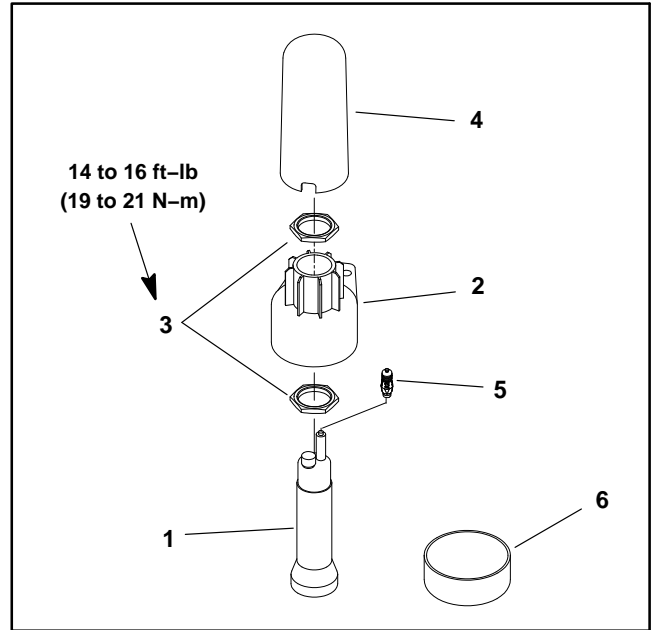

Figure 15
Two (2) identical sonic sensors are used in the Ultra Sonic Boom System. The sensors are mounted to the spray booms (Figs. 15, 16 and 17). During sprayer operation with the sonic boom switch in the automatic position, the sonic sensors provide inputs for the Toro Electronic Controller (TEC) to keep the booms at a constant distance from the ground.